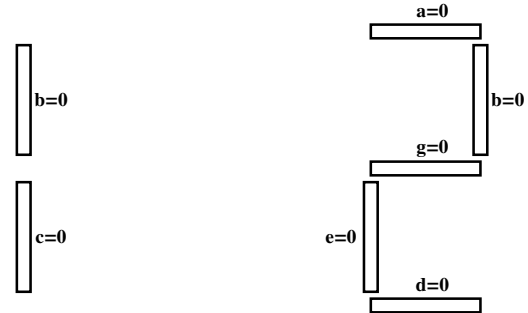

Fig. 2.6
Fig. 2.6 explains how to get decimal digits using the seven segment display. GND=0.
**Problem 2.6.** Draw the numbers 0-9 as in Fig. 2.6 and complete Table 2.6